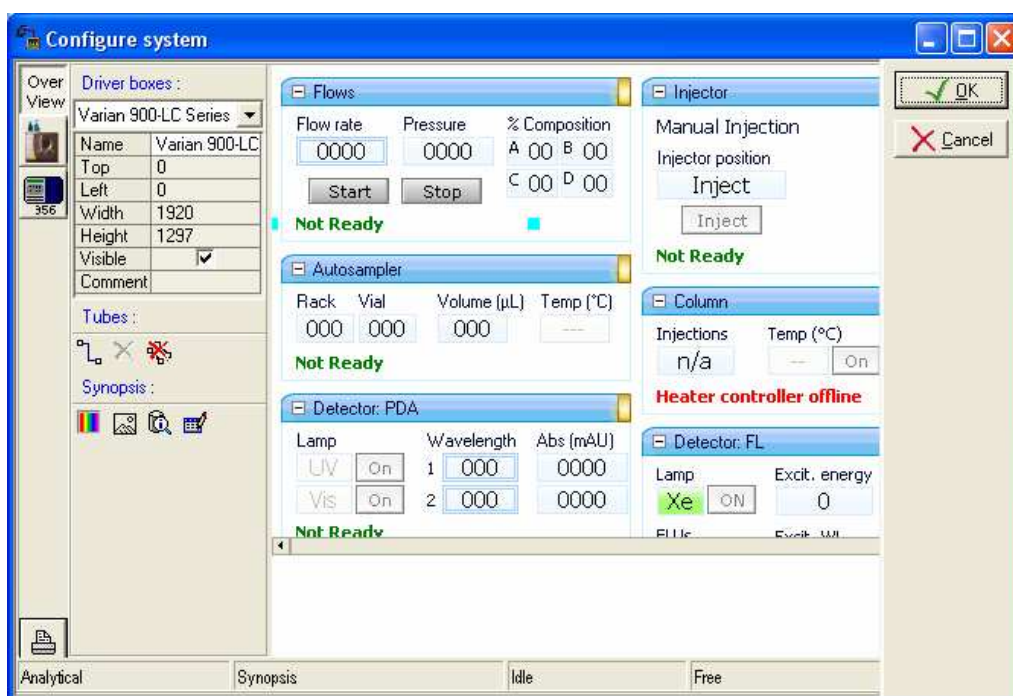

Figure 19 The driver has been started and the various tiles showing the configuration appear.
- The driver window appears after approximately 0.5-1.0minutes showing the various aspects of the configuration (*Fig. 19*). Click on the instrument icon on the left hand side.